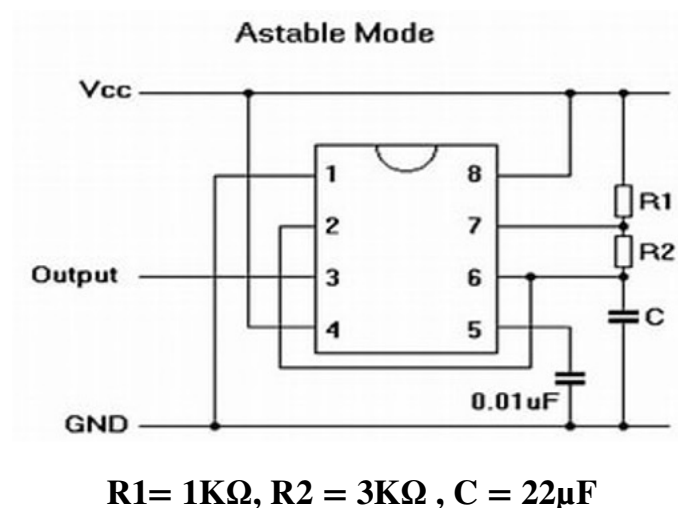

Figure 3.12
1. Analyse the timer circuit shown in Figure 3.12, which fails to produce reliable timing intervals: